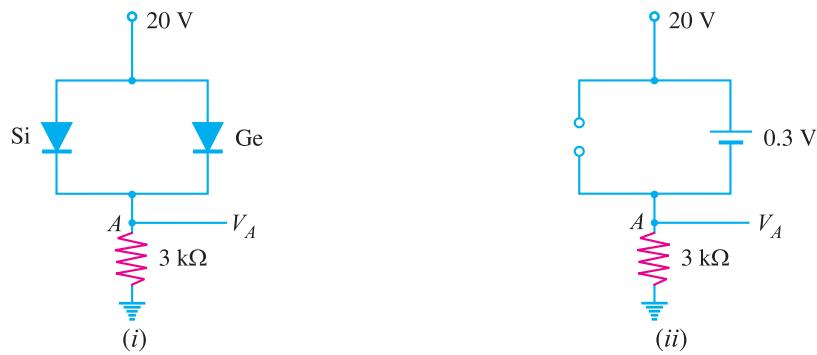

Fig. 6.13
**Example 6.6.** Find the voltage  $V_A$  in the circuit shown in Fig. 6.13 (i). Use simplified model.
**Solution.** It appears that when the applied voltage is switched on, both the diodes will turn “on”. But that is not so. When voltage is applied, germanium diode ( $V_0 = 0.3$  V) will turn on first and a level of 0.3 V is maintained across the parallel circuit. The silicon diode never gets the opportunity to have 0.7 V across it and, therefore, remains in open-circuit state as shown in Fig. 6.13 (ii).